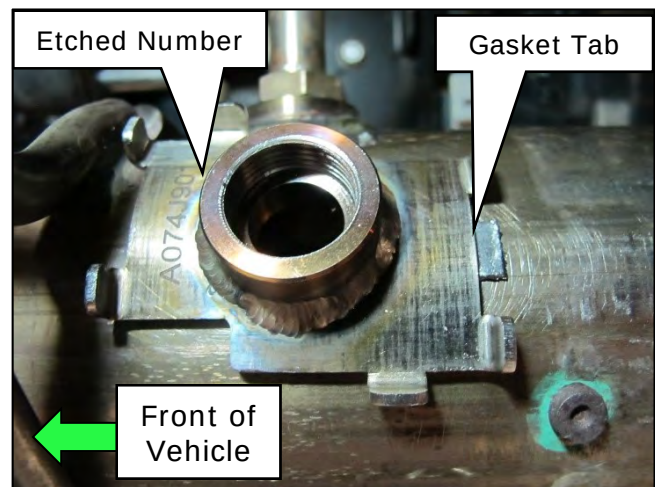

Figure 27
- HINT:** For clarity, Figure 27 does not show the U-bolt clamps.